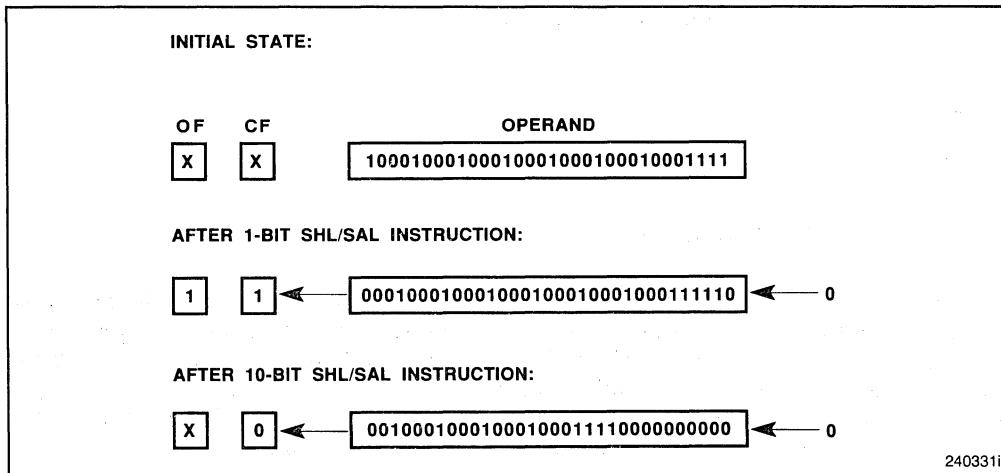

Figure 3-6. SHL/SAL Instruction
**SAL (Shift Arithmetic Left)** shifts the destination byte, word, or doubleword operand left by one bit position or by the number of bits specified in the count operand (an immediate value or a value contained in the CL register). Empty bit positions are cleared. See Figure 3-6.